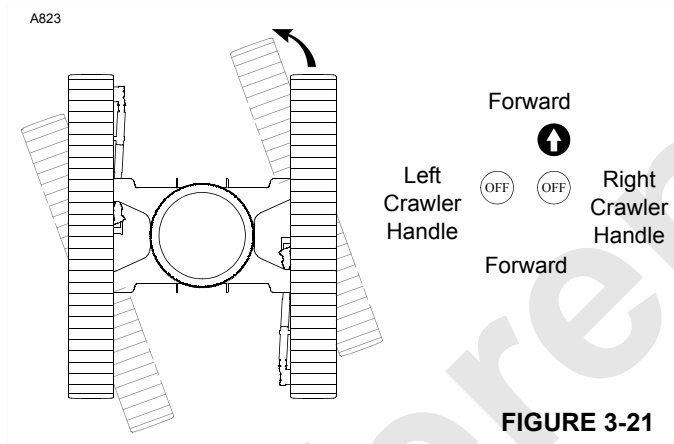

FIGURE 3-21
- Avoid sharp turns (Figure 3-21) if possible.
- To make a sharp left turn (Figure 3-21), move the right crawler handle to the front and leave the left crawler handle in off. The crane will pivot about the left crawler.